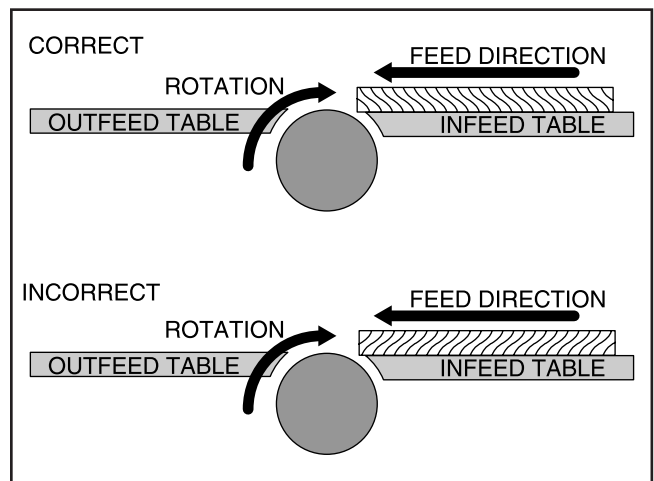

Figure 18. Correct and incorrect grain alignment to cutterhead.
- **Jointing and surface planing with the grain produces a better finish and is safer for the operator.** Cutting with the grain is described as feeding the stock on the jointer so the grain points down and toward you as viewed on the edge of the stock (Figure 18).